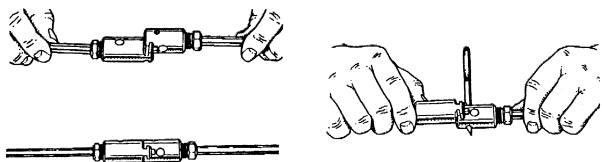

Figure 2 – Connecting/Disconnecting Rods
1. To connect rods, align and snap the couplings together for a solid connection (*Figure 2*).
4. Select and install proper tool/cutter to end of rod. To connect, snap the male and female couplings together. To disconnect, insert pin key and slip apart (Figure 2).
21. Uncouple rod from rod holder and disconnect rods by inserting pin key and sliding coupling apart (Figure 2).